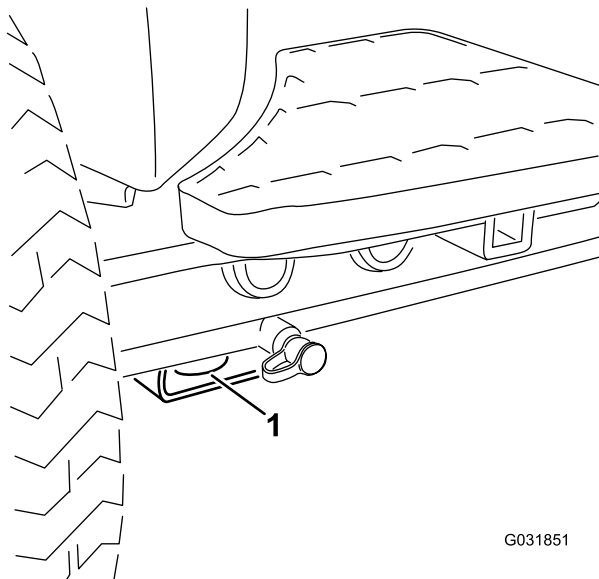

Figure 34
- Front—the hole in the rectangular pad, under the axle tube, inside each front tire (Figure 34)